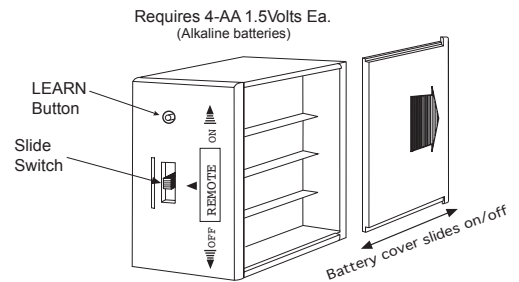

Fig. 11 Installing batteries into receiver.
2. Remove receiver shield and battery cover then install (4) AA alkaline batteries shown in Fig. 11. Reinstall receiver shield.